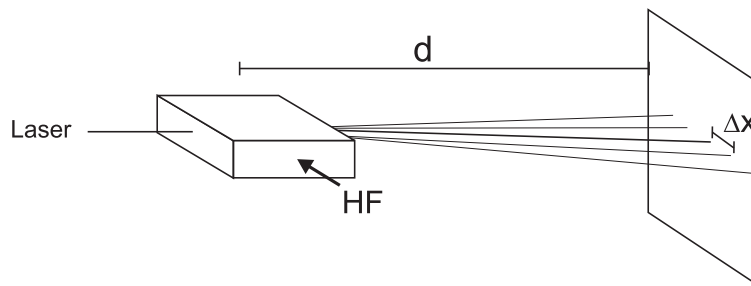

Figure 15: The angles can be determined by measuring the distance between the first and the zero order maximum.
In the following experiments, construct your set-up according to figure 15.
1. Adjust the AOM so that the amplitude of the diffraction pattern is approximately symmetric in both  $\pm 1$  orders. Measure the diffraction angles of the first and second order maxima for different frequencies, see Fig. 15. This AOM can work at  $110 \pm 25 \text{ MHz}$ , use a suitable stepsize. You can increase the precision of your result when you reduce the relative errors in your measurement; construct your set-up accordingly.